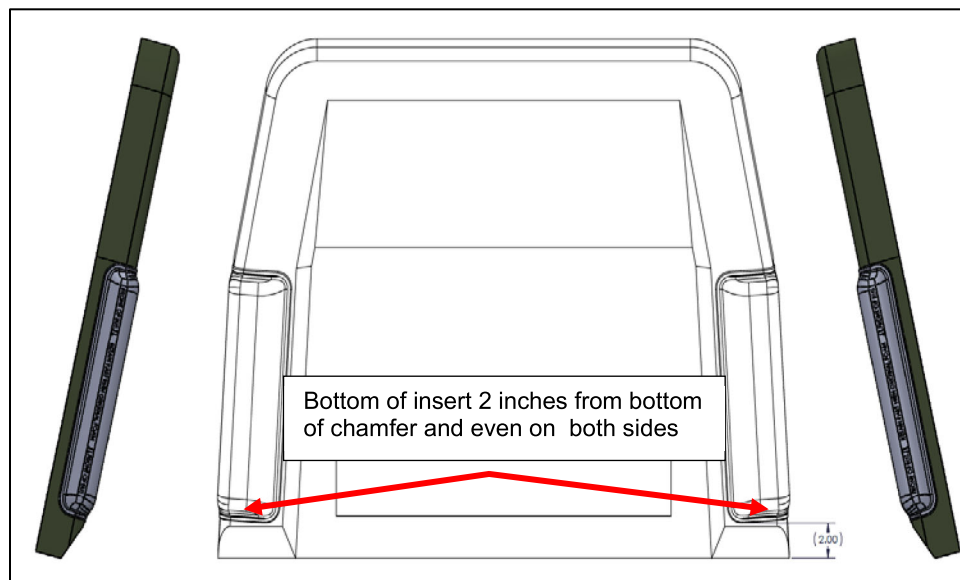

Figure 9: Alignment with Seat Foam
11. Check the bottom edge of both inserts. They should remain even with the foam chamfer, approximately 2 inches from the bottom of the foam. If either insert has shifted, adjust as necessary by sliding it up or down as needed to maintain the 2-inch distance from the bottom of the foam. See **Figure 9**.